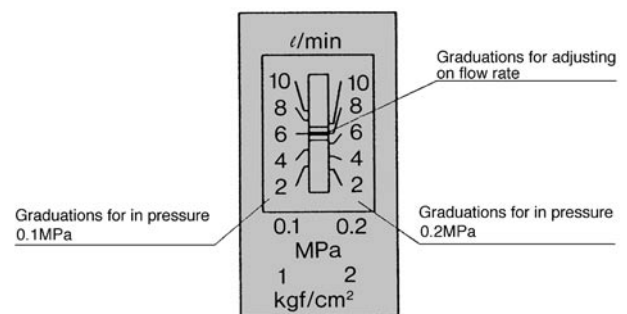

Fig.1
- Align the indicator needle to the graduation on the left side of the window name plate if the IN side pressure is 0.1MPa, and to the graduation on the right side if the pressure is 0.2MPa. (Refer to Fig.1.)